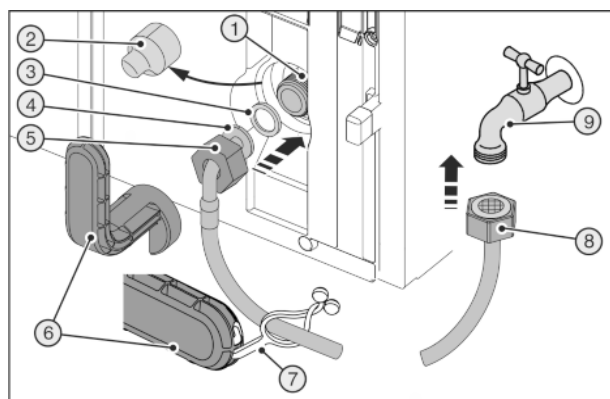
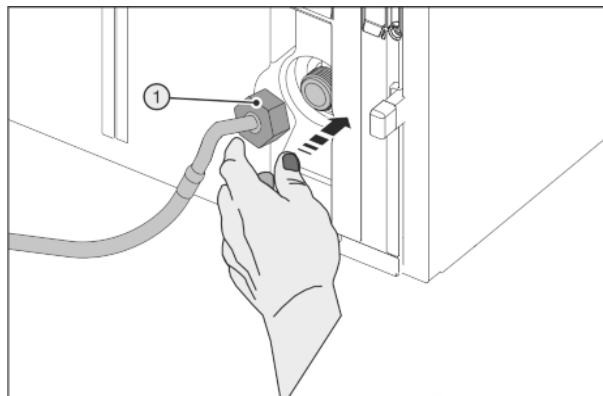

Fig. 45
Fig. 46
Broken auxiliary tool Fig. 45 (6).
- ▶ Only use an auxiliary tool Fig. 45 (6) at room temperature.
- ▶ Remove the cover Fig. 45 (2).
- ▶ Easy to fit: Place the straight end of the hose Fig. 45 (8) to the left on the floor.
- ▶ Slide the nut Fig. 45 (5) over the angled end of the hose Fig. 45 (4) up to the end and secure.
- ▶ Moisten Fig. 45 (3) the seal and push onto the nut Fig. 45 (5).
- ▷ The seal Fig. 45 (3) lies flat and is easily retained.
- ▶ Position the nut Fig. 46 (1) carefully and screw it directly onto the thread with two fingers until it is seated securely.
- ▶ Tighten the nut Fig. 46 (1) clockwise with the auxiliary tool Fig. 45 (6) until maximum torque is reached and the auxiliary tool Fig. 45 (6) overtightens.
- ▶ Screw the nut Fig. 45 (8) onto the stopcock Fig. 45 (9).
- ▶ Tighten the nut Fig. 45 (8) clockwise with the auxiliary tool Fig. 45 (6) until maximum torque is reached and the auxiliary tool Fig. 45 (6) overtightens.
- ▶ Turn the water supply stopcock Fig. 45 (9) on and check the whole water system for leaks.
- ▶ Hook the clip Fig. 45 (7) into the auxiliary tool Fig. 45 (6) and fix it to the stainless steel pipe to store it.